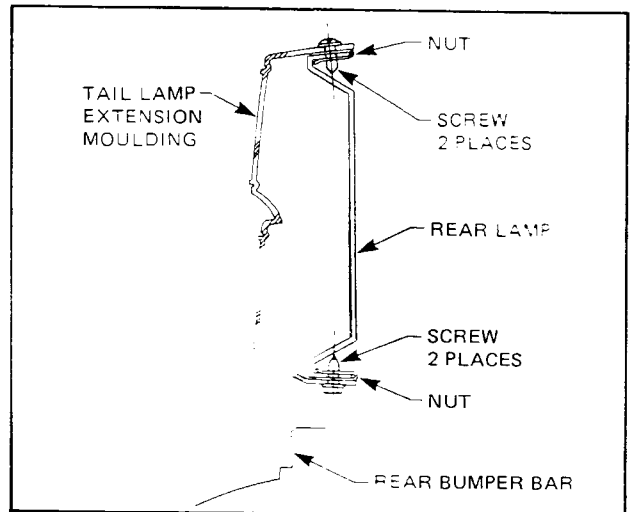

Figure 12B-5
3. From inside the boot, remove the two nuts securing the tail lamp extension moulding mounting brackets to the rear end panel, refer Fig. 12B-6. Remove extension.